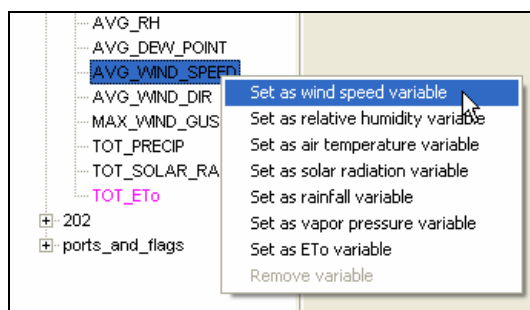

Figure 10.0.16
- Scroll down to set wind speed variable in the **selections** window and click on it (Figure 10.0.16).